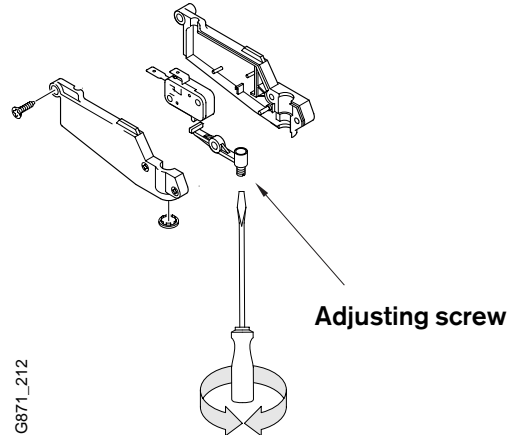

Fig. 14 - microswitch adjustment
If you do not hear a click when a tap is opened, the microswitch needs to be adjusted. See Fig. 15 (#11) for location and see Fig. 14 for adjustment. The microswitch may need to be replaced.
If the pilot orifice is clean, the water valve assembly should be checked. The adjustment screw on the water valve micro-switch may not be tight enough (fig. 14). Remove central cap beneath micro-switch assembly, carefully loosen the adjustment screw until the pilot light ignites. At that point retighten the screw one and a half turns. See Fig 14.
If no water is running, but pilot electrode continuously sparks, the microswitch screw to the water valve needs adjustment. See Figure 14.
3. Check adjustment of microswitch (see Fig. 14)
1. Check adjustment of microswitch (see Fig. 14)
2. Check adjustment of microswitch (see Fig. 14).